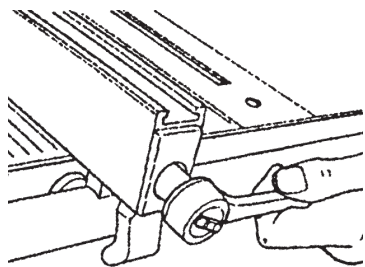

Figure 78
- b. If too loose, lock the Handle, and use a 1/2" Socket with Ratchet Wrench to tighten the Lock Nut. When the Clamp touches the Table Tube, loosen the Lock nut 1/8 turn or less. See Figure 78.